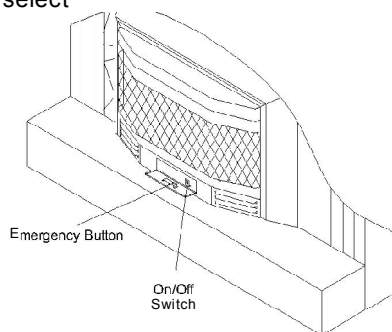

Figure 11 Emergency Button and ON/OFF Switch location
2. Set the Switch on OFF location.(see figure 11)
If your remote transmitter is lost or mis-placed , you can press the emergency button to operate heater manually **on** or **off** (see fig 11)